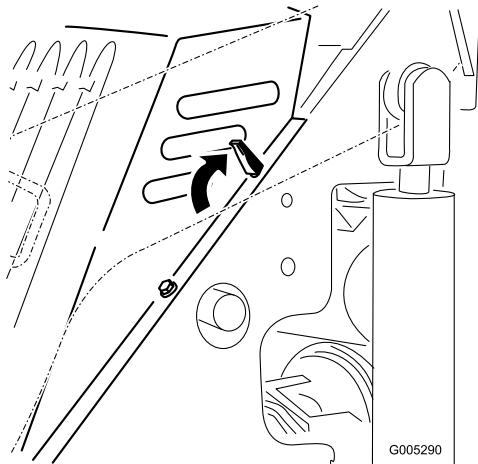

Figure 16
3. Release the four locking tabs (Figure 16, top, left tab illustrated).
1. Position the hood over the traction unit frame with the posts on the hood fitting into the holes in the frame (Figure 16).
2. Secure the hood by pushing the locking tabs forward and down (Figure 16)